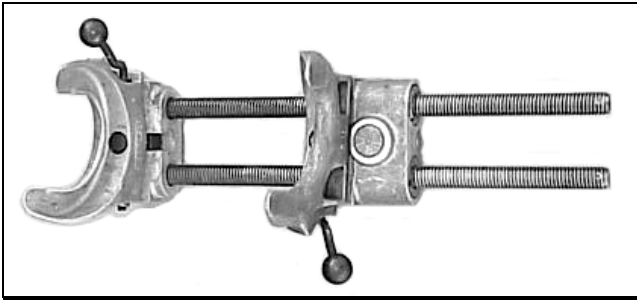

Figure 8
- 3) ☐ Compress the new front coil spring to 16 inches in length. Use a quality spring compressor like the one shown in Figure 8.